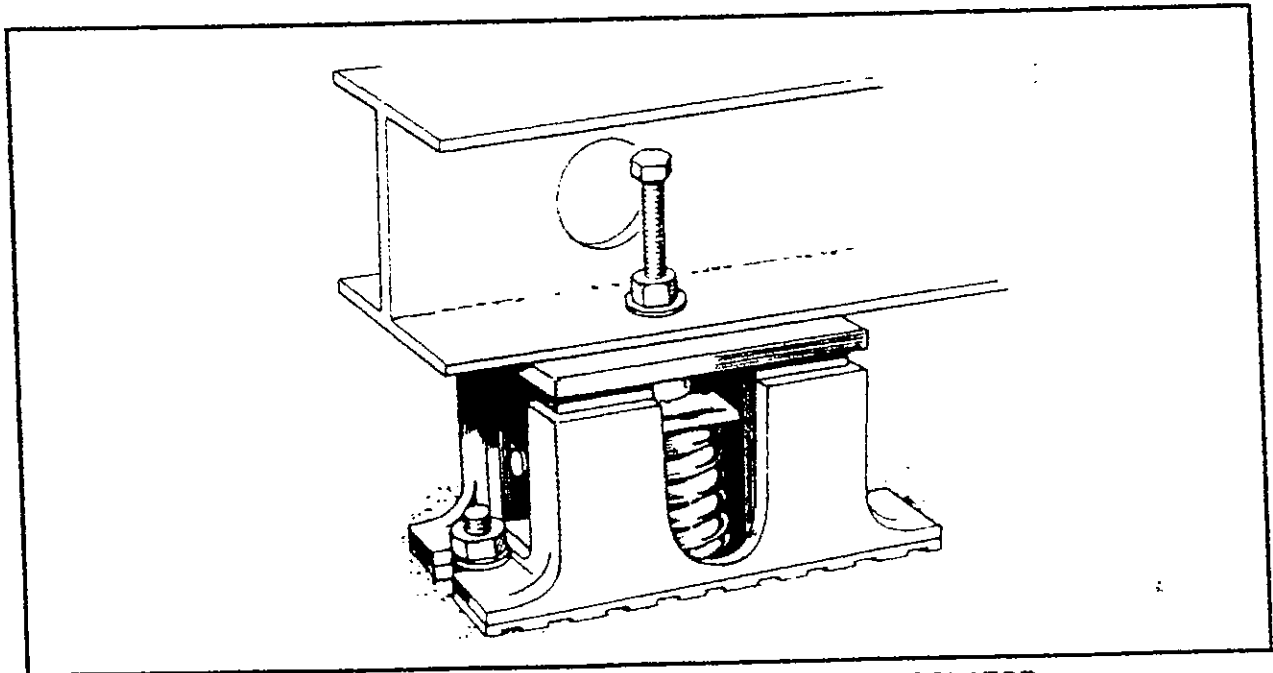

FIGURE 19. TYPICAL STEEL SPRING VIBRATION ISOLATOR
Figure 19 illustrates a steel spring vibration isolator of the type required for mounting the larger **TAYLOR POWER SYSTEMS generator sets**, even those models which have rubber vibration isolators between the skid and the engine-generator assembly. Steel spring isolators of this type can provide up to 98 percent reduction in the force of the vibration transmitted. Locate the isolators as shown on the generator set outline drawing referenced on the Specification Sheet. The outline drawing may show configurations involving 4-, 6-, 8- or 12-point mounting. Also, when the generator set is mounted on top of a sub-base fuel tank, the vibration isolators must be installed *between the generator set and the fuel tank*.
- Flexible, corrugated stainless steel exhaust tubing at least 24 inches (610 mm) long must be connected to the engine exhaust outlet(s) to take up thermal expansion and generator set movement and vibration whenever the set is mounted on steel spring isolators of the type shown in Figure 19. Smaller sets that are bolted directly to the floor must be connected by corrugated stainless steel exhaust tubing at least 18 inches (457 mm) long. Flexible tubing must not be used to form bends or to compensate for misaligned piping.